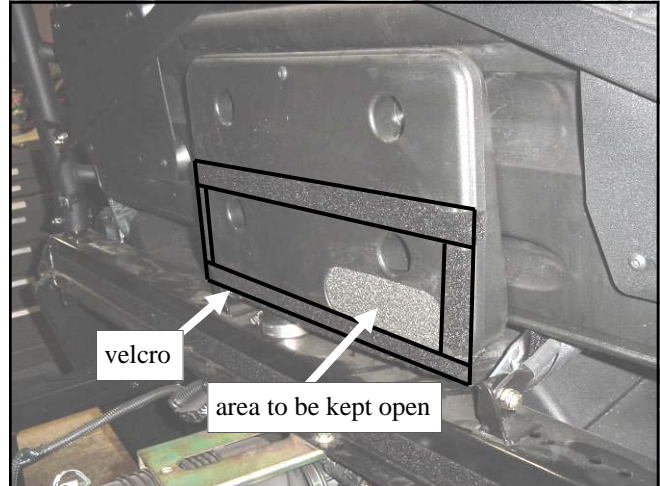

Fig. 4.5 (view from rear of passenger's side)
4.5 Per fig. 4.5, apply velcro in a rectangular pattern as shown by the heavy black lines in the photo. Note: the opening in the vinyl rear curtain is to allow air flow in the lower right hand corner where the foam filter is located.